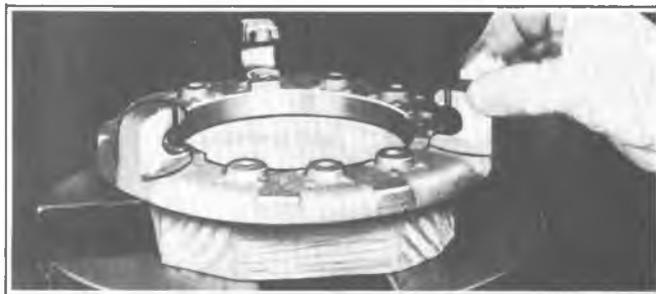

Fig. 7C-6E--Greasing Lug
5. Stake adjusting nut, as shown in Fig. 7C-14E, to eyebolt with a dull punch to lock adjustment.